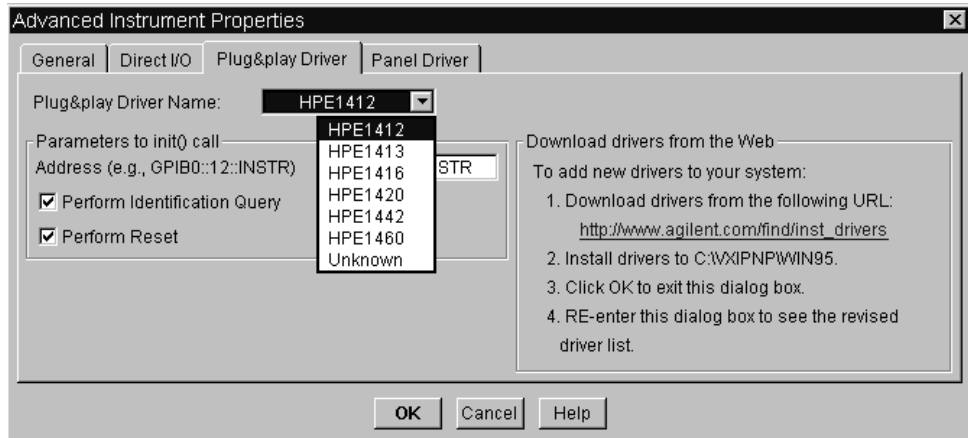

Figure 105 Selecting a *VXIplug&play* Driver
- 3 In the Advanced Instrument Properties dialog box, toggle Live Mode: to OFF and select the Plug&play Driver folder. Click the **Plug&play Driver Name:** field to display the drop-down menu which lists all the drivers installed on the computer. This example uses the hpe1412 driver, as shown in Figure 105.